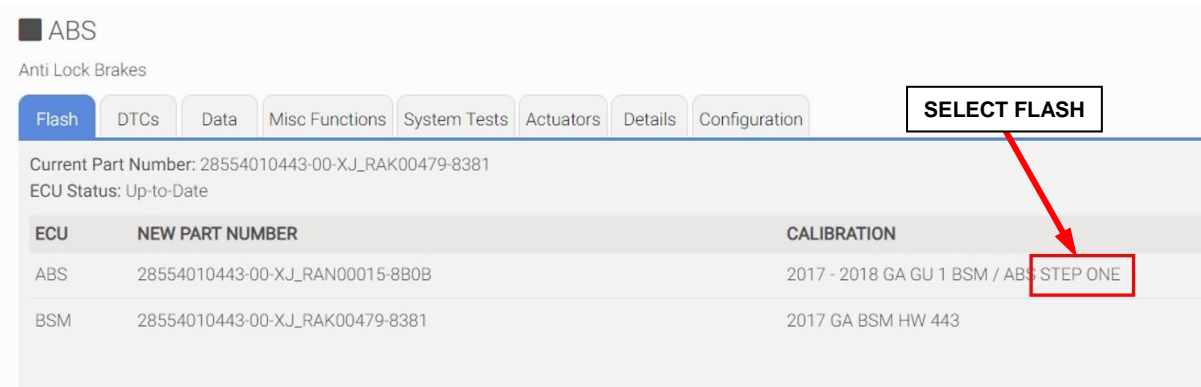

Figure 4 – First Flash ABS / BSM “STEP ONE”
- From the ABS flash tab, select the ABS flash “STEP ONE” and proceed with the first reprogramming procedure (Figure 4).